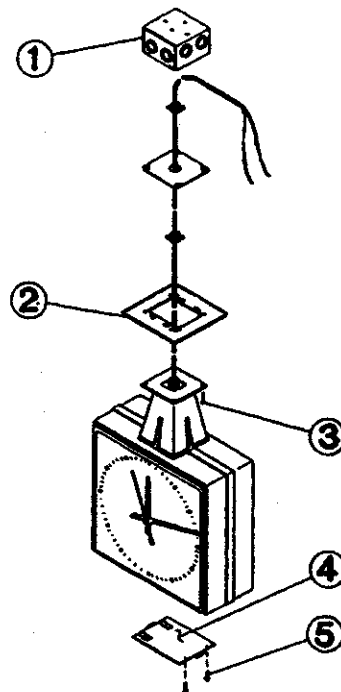

Figure 6: Double Mount Installation For 12" Square Clock
5. Remove (2) #8-32 screws (Fig. 6, #5) that secure access panel (Fig. 6, #4) and remove panel from bottom of clock. Set time, using setting knob on back of each clock.